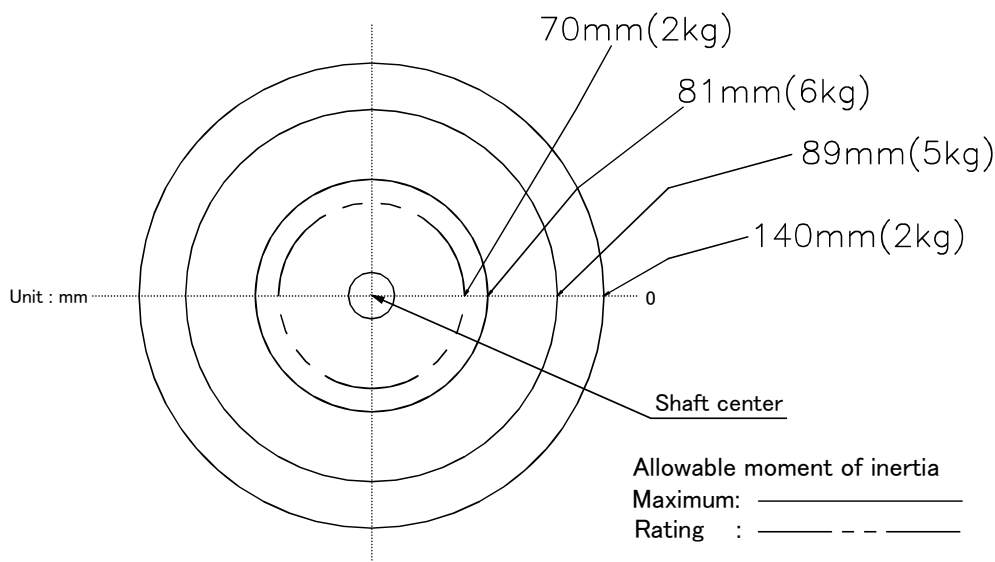
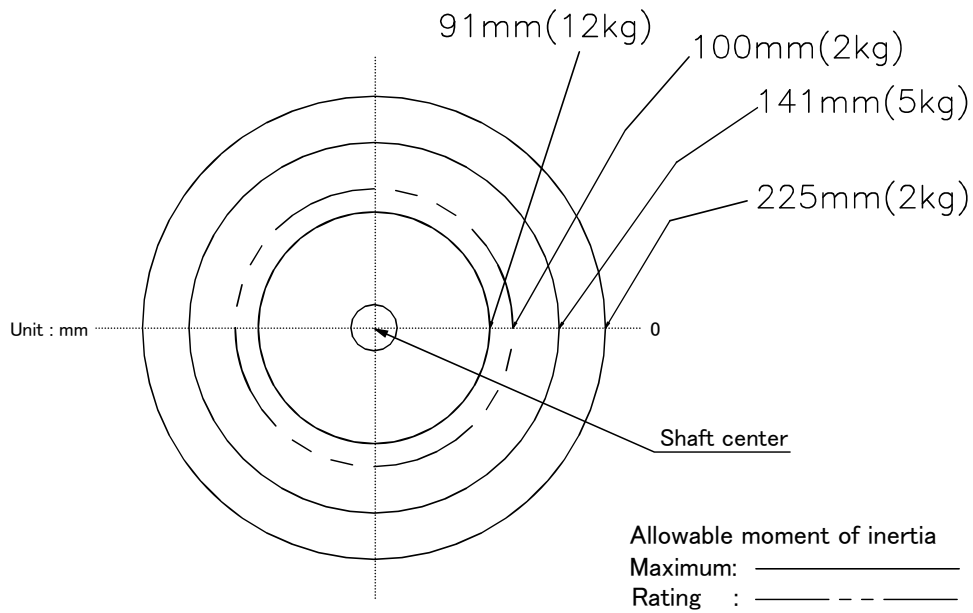
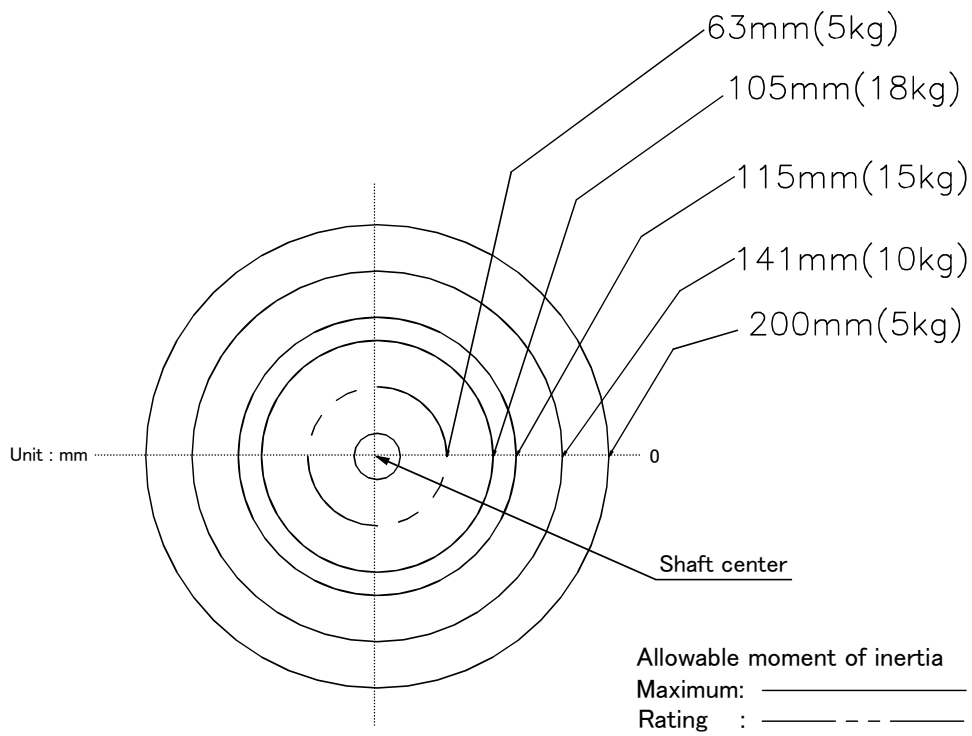

Fig.2-1 : Position of center of gravity for loads (for loads with comparatively small volume): RH-6SDH series
Fig.2-2 : Position of center of gravity for loads (for loads with comparatively small volume): RH-12SDH series
Fig.2-3 : Position of center of gravity for loads (for loads with comparatively small volume): RH-18SDH series
- (1) The tooling should have the value less or equal than the smaller of the tolerable inertia and the tolerable moment found in Page 8, "2.1 Standard specifications".
- (2) Fig. 2-1, Fig. 2-2 and Fig. 2-3 shows the distribution dimensions for the center of gravity in the case where the volume of the load is relatively small. Use this figure as a reference when designing the tooling.